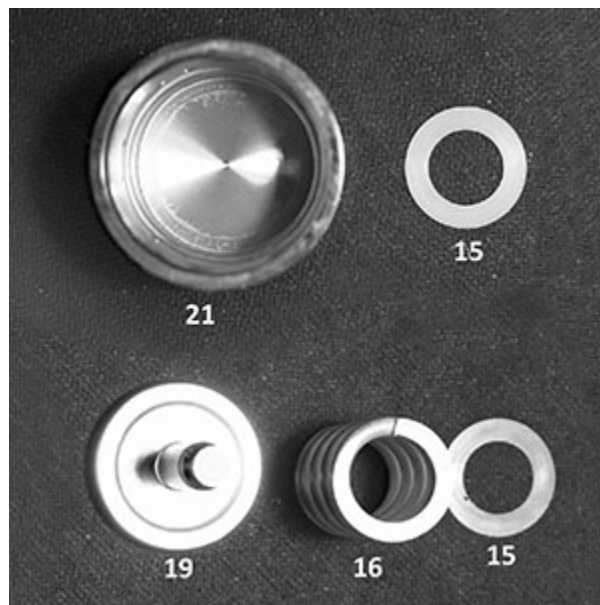

Fig. 14
9. Lift the Washer (15), Piston (19), Spring (16), and Washer (15) from the Body (21) - Fig. 14.